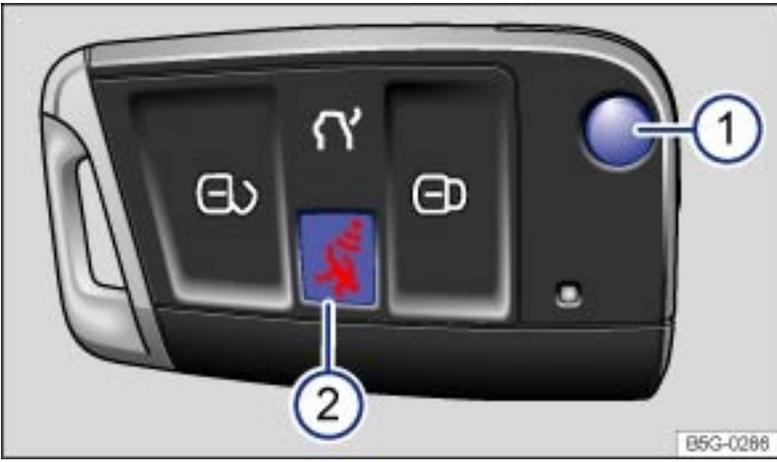

Fig. 22 Remote control vehicle key with panic button.
Pressing button → Fig. 22 ① releases the key bit and folds it out.
Press the panic button → Fig. 22 ② only in emergencies! After pushing the panic button, the horn will sound and the turn signals will flash. Press the panic button again or press the  button on the remote control vehicle key to switch off the panic feature.